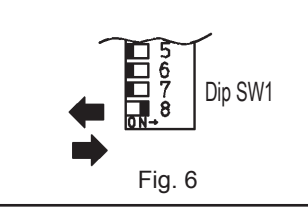

Fig. 6
- Move switch 8 of Dip SW1 to OFF and then back to ON. Figure 6.